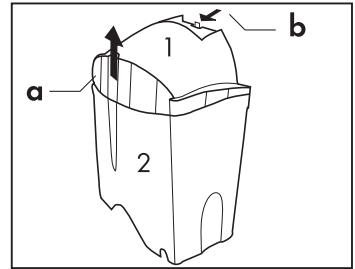

Fig. 3
- Remove the cover (1) of the wastewater container (2) as follows:
- release the catch (b) by applying downward pressure in the direction of the container (Fig. 3)
- press down the catch (a) while simultaneously lifting the cover (1). Fig. 3